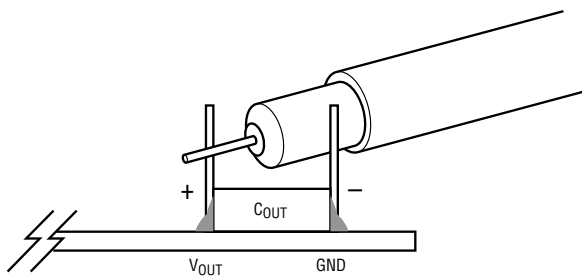

Figure 2. Scope Probe Placement for Measuring Output Ripple Voltage
- Once the input and output voltage are properly established and the fan is turned on, adjust the load current within the operating range of 0A to 480A max. Observe the output voltage regulation, output voltage ripples, switching node waveform, load transient response and other parameters. Refer to Figure 2 for proper output voltage ripples measurement.
NOTE: To measure the input/output voltage ripples properly, do not use the long ground lead on the oscilloscope probe. See Figure 2 for the proper scope probe technique. Short, stiff leads need to be soldered to the (+) and (-) terminals of an input or output capacitor. The probe’s ground ring needs to touch the (-) lead and the probe tip needs to touch the (+) lead.